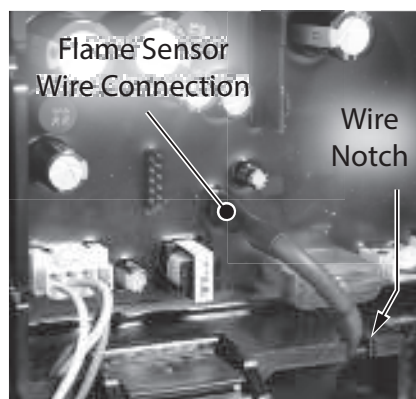

Figure 39 - Disconnect flame sensor wire
- 4 Disconnect the flame sensor wire (blade style connector) from control board panel as shown in Figure 39. Notice the wire notch in the control board panel for proper routing of the flame sensor wire during reinstallation.
- 10 Route the flame sensor wire under the control board panel and through the notch as shown in Figure 39. This will help keep wire in place.
- 12 Connect the flame sensor wire to control board panel as shown in Figure 39.